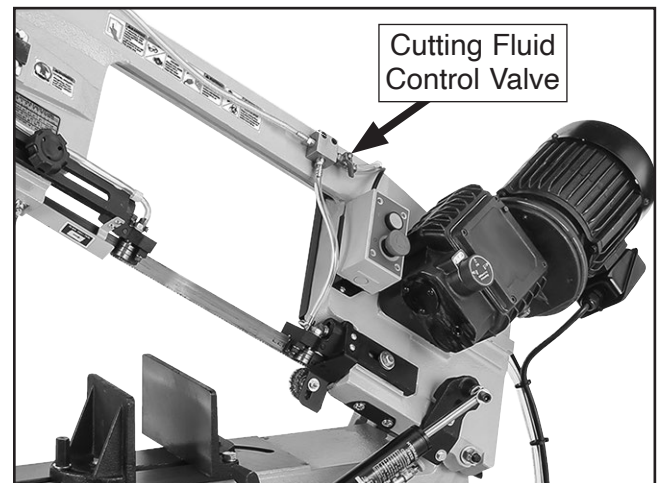

Figure 54. Location of cutting fluid control valve.
3. Adjust cutting fluid control valve to control flow of cutting fluid (see **Figure 54**). Make sure pressure is not so high that cutting fluid spills on floor and creates a slipping hazard.